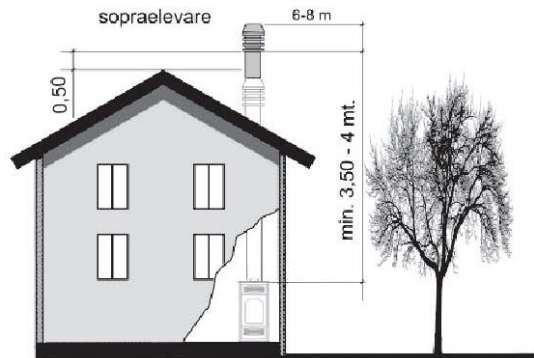

Fig.4
- The chimney pot must be positioned so as to guarantee an adequate dispersion and dilution of combustion products and, in any case, outside the zone of reflux. This zone can be of different sizes and shapes depending on the angle of slope of the roof, so it is necessary to adopt the minimum heights shown in *fig.4* and *fig.5*.
- The chimney pot must be of wind-proof type and exceed the height of the ridge, *fig.4* and *fig.5*.
- Any buildings or other obstacles that exceed the height of the chimney pot must not be close to the chimney pot itself (*fig.4*).